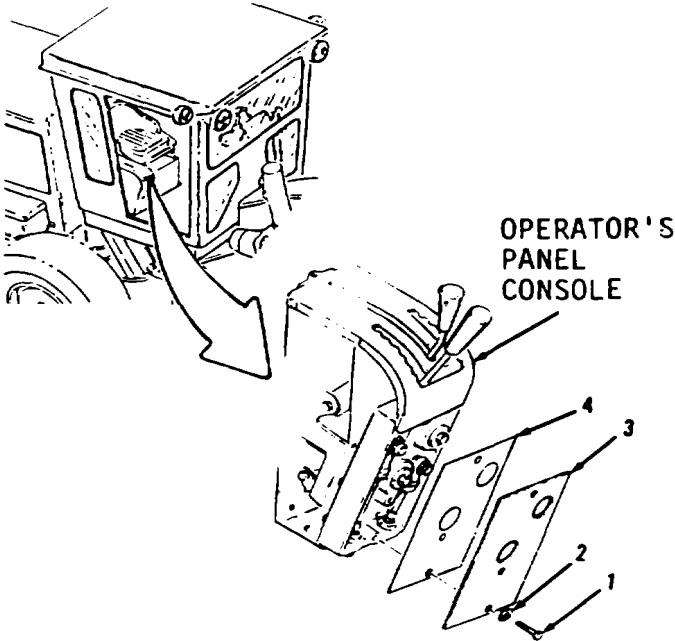

Figure 5-17.
1. Remove three bolts (1), washers (2), cover (3) and gasket (4, Figure 5-17) from front of operator's panel console. Discard gasket (4). Remove all gasket material from mounting surfaces.